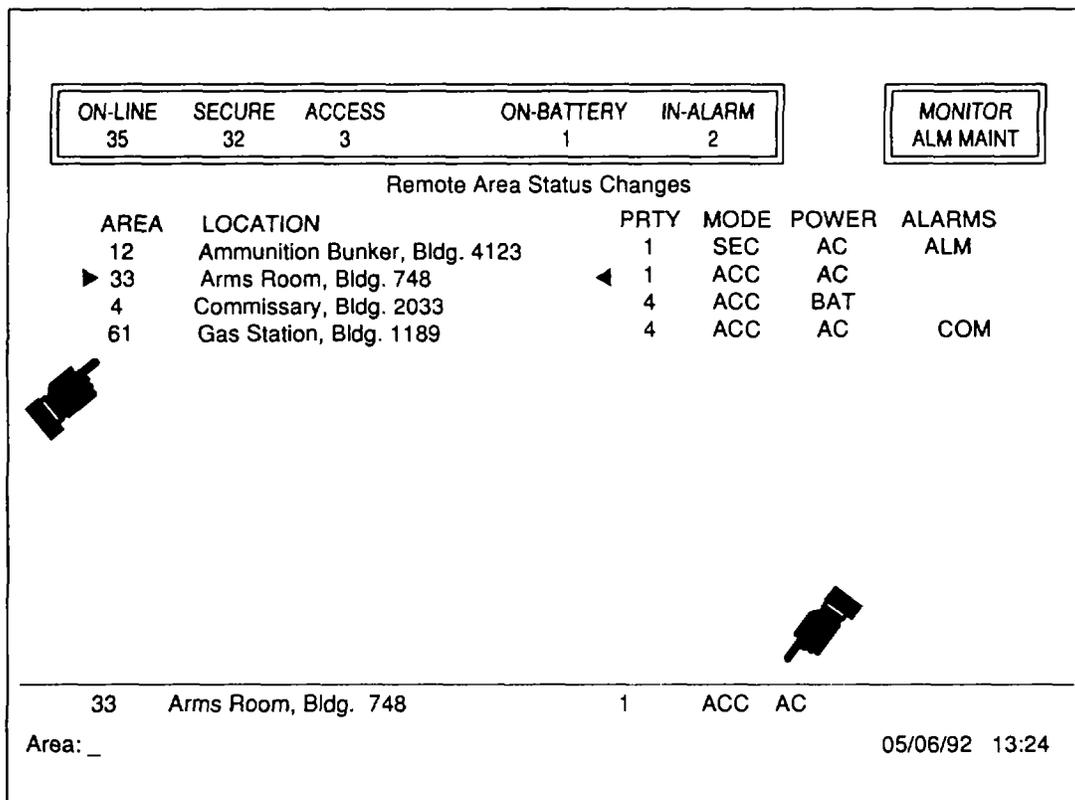

Figure 1-9. Remote Area Statue Changes Screen (Typical).
1.15.6 Remote Area Status Changes Screen. The Remote Area Status Changes Screen (figure 1-9) is divided into three sections. This screen provides the operator with the status information of the remote areas that have had a status change. Areas are selected by entering an area number between 1 and 64 on the command line and pressing enter. It can also be selected by moving the pointer to an area and pressing enter. It consists of up to four pages (separate screens). Movement between the screens is controlled by using the <PgDn> (moves down one page) and <PgUp> (moves up one page) keys. Each page displays information about 16 of the remote areas that have had status changes. The screen provides the area number, the location of the area, the priority assigned the area, the type of power at the area, and the alarm condition of the area. The screen displays all areas that have status changes. When alarms are cleared and reset, alarms are removed by the <ESC> key or when another area is selected. Status changes that are not alarms are removed by pressing the <Fl> key. The location column provides the description of the area. The description is also provided in the command line. The remaining columns are described in paragraphs 1.15.4.1 through 1.15.4.5